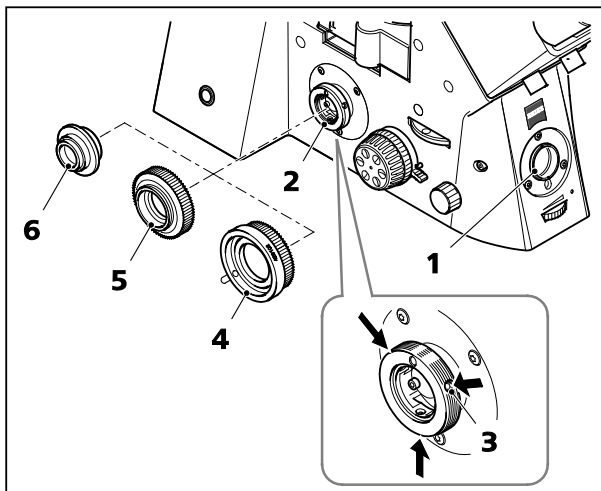

Fig. 161 Making connections to sideport / baseport
A new "interface 60N" connection type is used on the Axio Observer for camera adaptation for the right/left sideport (Fig. 161/2), and for the baseport (Fig. 161/1). The familiar adapter for "interface 60" (30 mm internal diameter) can still be used.
- Fix the camera adapter 60N (Fig. 161/4 or 5) to the camera.
The three set screws (3 mm) (Fig. 161/3) at the camera port must not extend either to the external thread or into the internal bore hole.
- Attach the pre-assembled unit to the camera port, adjust it and fasten the union nut of the adapter (Fig. 161/4 or 5) fingertight.
- Attach the camera adapter 60 (Fig. 161/6) to the camera.
- Turn the three set screws (3 mm) on the coupling point (Fig. 161/3) clockwise until the adapter is tight.